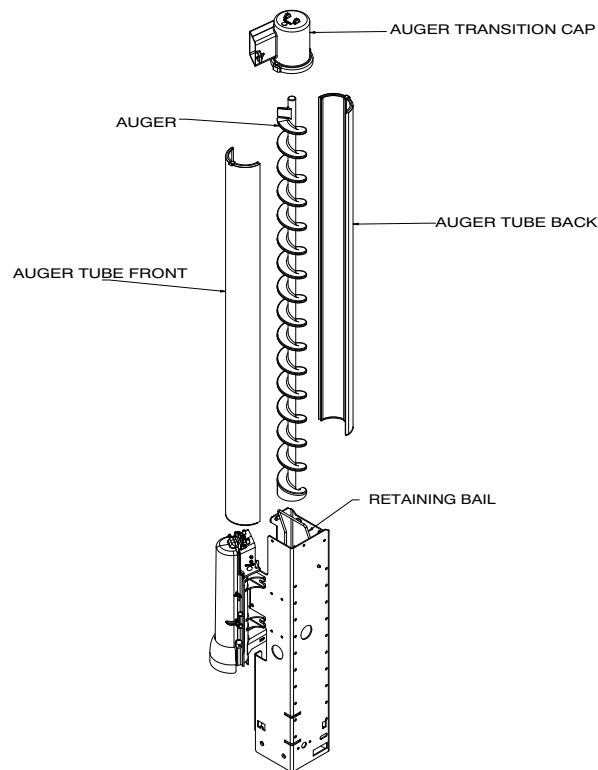

Figure 5
3. Remove the tower cover. (See Figure 5.)